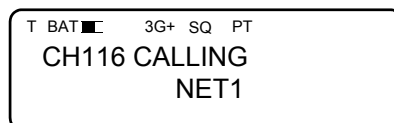

Figure 3-49. Net Call Screen
- e. If the call type is **MANUAL**, the AN/PRC-150(C) prompts the user for the channel number to place the call on.
- f. KDU displays call status. See Figure 3-49.